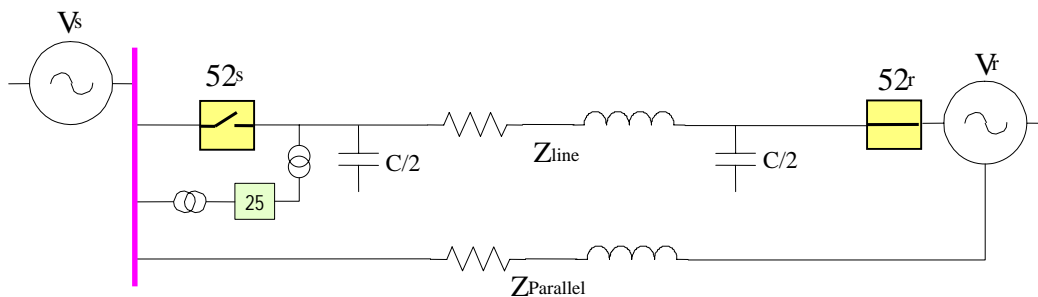

Figure 5–16: SYNCHRONISM CHECK ELEMENT
Synchronism check (25) is defined as the comparison of the voltage difference of two circuits with different sources to be either linked through an impedance element (transmission line, feeder, etc.), or connected through parallel circuits of defined impedance (Figure 5–16.) The voltage comparison between both sides of a breaker is performed before closing the breaker, in order to minimize internal damage that could occur due to the voltage difference, both in magnitude and angle. This is extremely important in steam generating plants, where reclosing output lines with angle differences could lead to severe damage to the turbine axis.